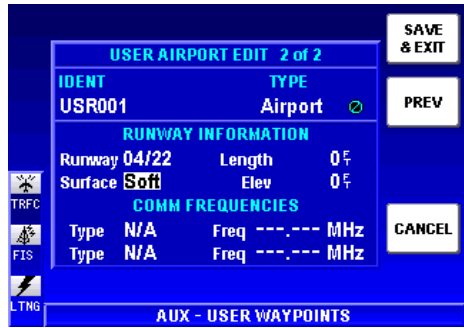

Figure 1-85
5. Use the Joystick to place the cursor in the **Surface** field as shown in Figure 1-85.